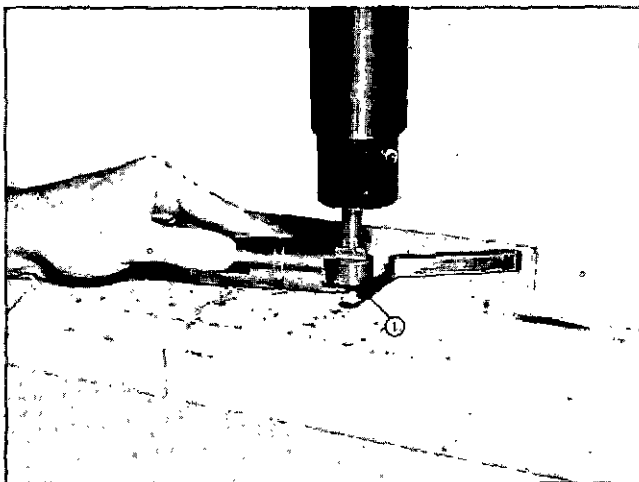
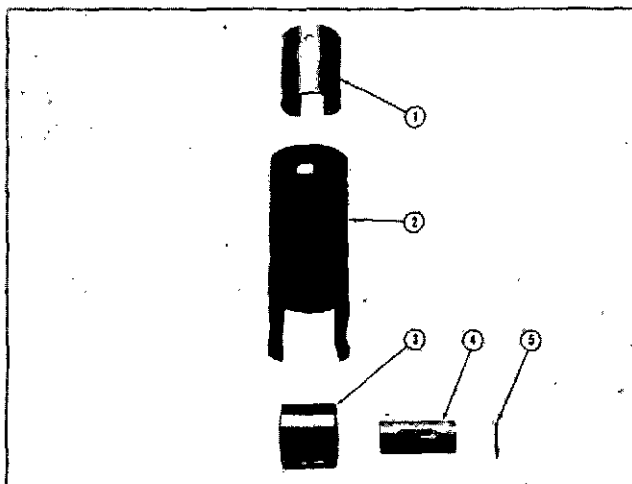
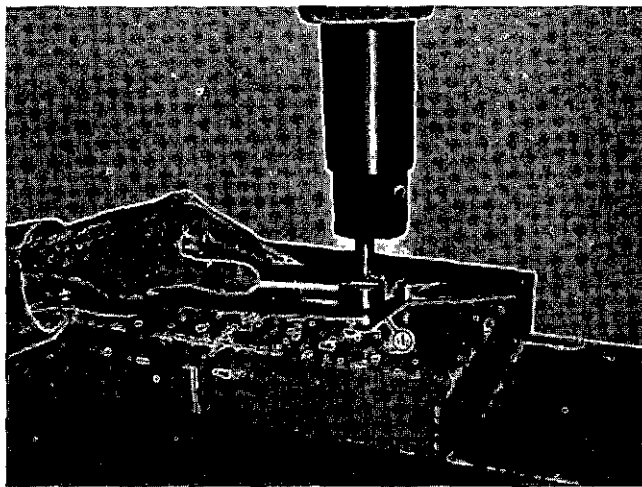

Fig. 4-2-1, N20402. Place shim between body and roller
Fig. 4-2-2, N20404. Tappet assembly—exploded view
Fig. 4-2-3, N20402. Installing tappet roller pin
1. Place 0.006 inch [0.1524 mm] shim (1, Fig. 4-2-1) between tappet (2, Fig. 4-2-2) and side of roller (3) to prevent springing fork when removing roller; press on end of pin (4) that is not lockwired (pinned).
2. Discard pin (4) and lockwire (5).
5. Check force required to move guide sleeve (1, Fig. 4-2-2) inside tappet, if greater than 70 inch-lb [0.8065 kg m], install new sleeve.
1. Insert 0.006 inch [0.1524 mm] shim between side of roller (3, Fig. 4-2-2) and tappet (2); press pin (4) through tappet and roller with lockwire (5) in pin. Make sure lockwire seats in groove of tappet. See Fig. 4-2-3.
2. If removed, install steel sleeve (1, Fig. 4-2-2) in tappet by compressing and aligning guide slot in sleeve with slot in tappet body.